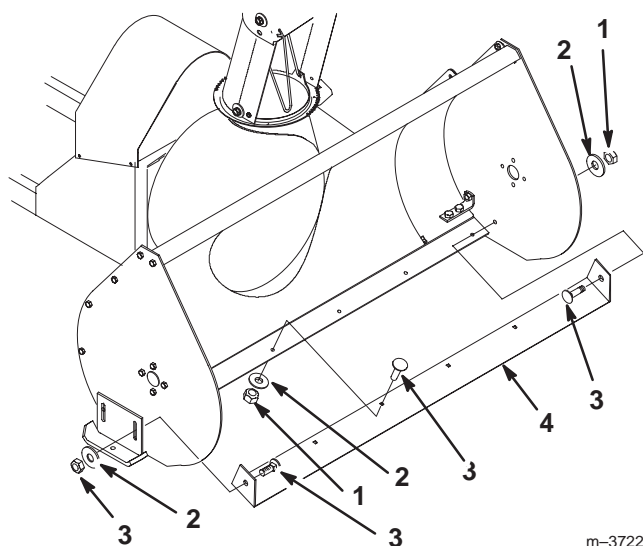

Figure 48
3. Remove nuts, washers, carriage bolts and scraper blade (Fig. 48).
4. Replace scraper blade and install with previously removed hardware (Fig. 48).